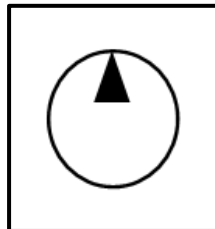

FIGURE 4.14
4.14 Identify the hydraulic symbol in FIGURE 4.14 below.